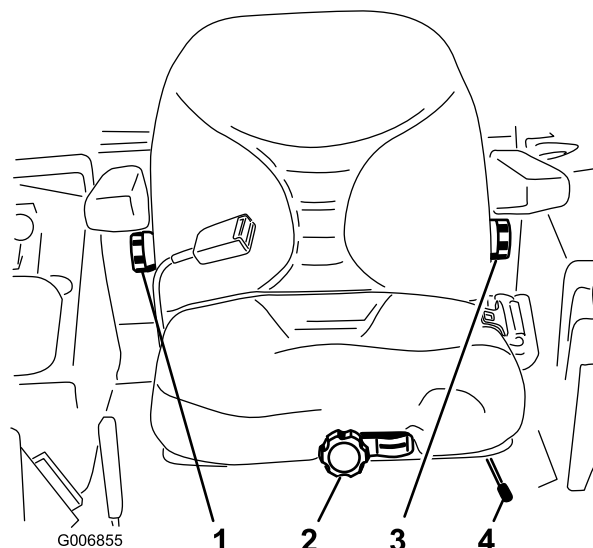

Figure 17
1. To adjust, move the lever sideways to unlock the seat (Figure 17).
Without sitting on the seat, turn the knob in front either direction to provide the best comfort (Figure 17).
To adjust it, turn the knob, under the right-side arm rest, in either direction to provide the best comfort (Figure 17).
To adjust it, turn the knob under the left-side arm rest, in either direction to provide the best comfort (Figure 17).